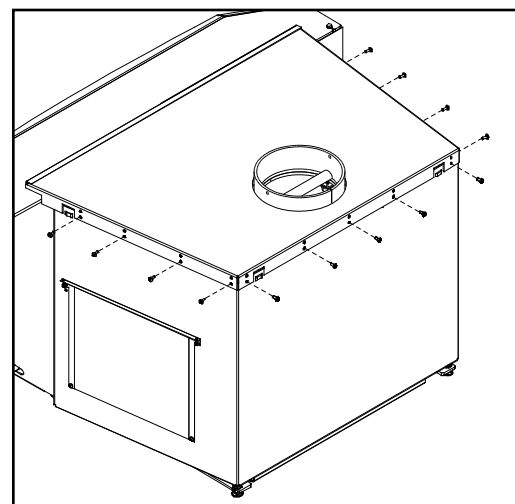

**Figure 6: Bolts to remove.**
- Remove the two (2) lag bolts (shown in Figure 6) that secure the unit to the pallet from inside the firebox.